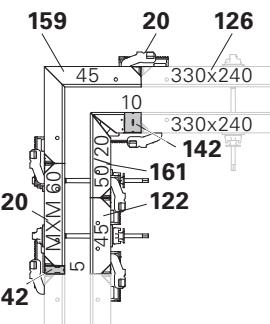

Fig. C1.01
- Fig. C1.01 + C1.05a + C1.05b